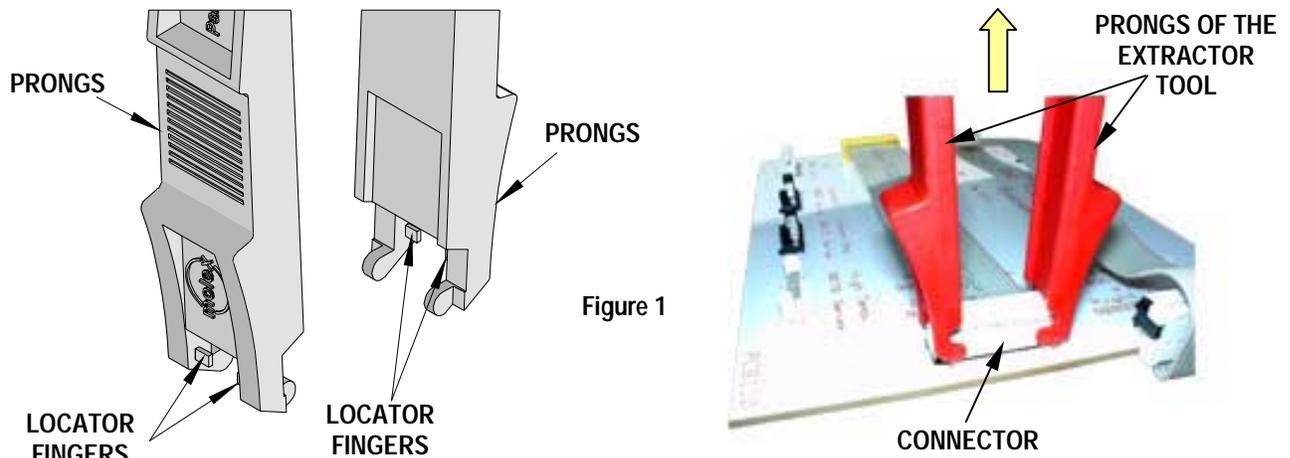

Figure 1
3. Squeeze the prongs together until the locator fingers are in the slots of the connector end walls. See Figure 1.